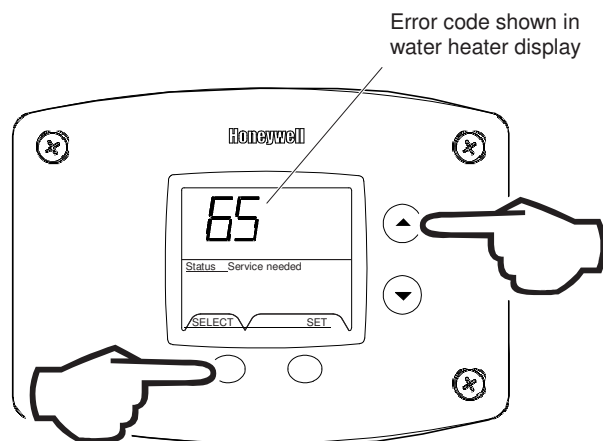

Fig. 60
1. Press for 3 seconds to enter service mode (Fig. 60).